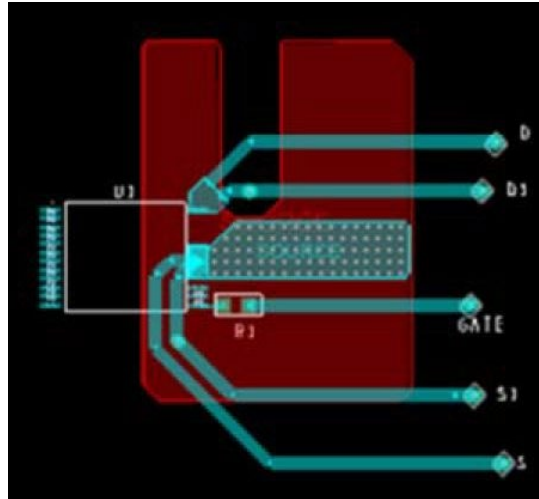

Figure 25. Thermal Resistance Test Conditions for PowiGaN Devices (INN3678C, INN3679C and INN3670C.)
Testing performed on custom thermal test PCB as shown in Figure 25. The test board consists of 2 layers of 2 oz. Cu with the InSOP package mounted to the top surface and connected to a bottom layer Cu heat sinking area of 550 mm2.
- Please see Figure 25.